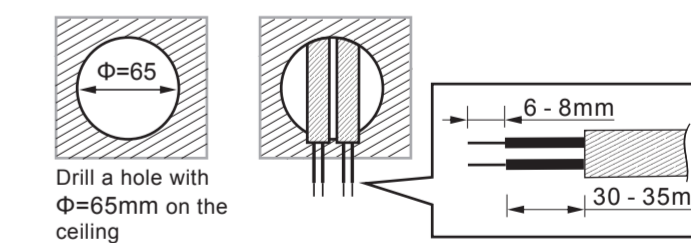

FIG.11
3.4.2.1 To install detector, please drill a hole with diameter of 65mm on ceiling board and keep the power cable outside. Please strip off 6 - 8mm of cable sheathing for wiring (See FIG.11).